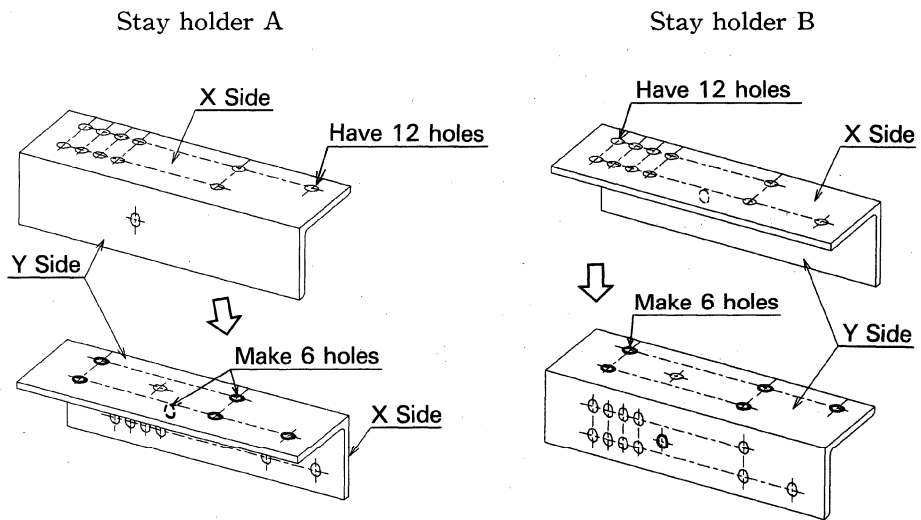

Fig. 11
As shown in the above Fig. 11, holes were made in X side for JIS rails. Make holes in Y side in accordance with travel rail width (T).
(3) Assembling pinion axle, collars and washers